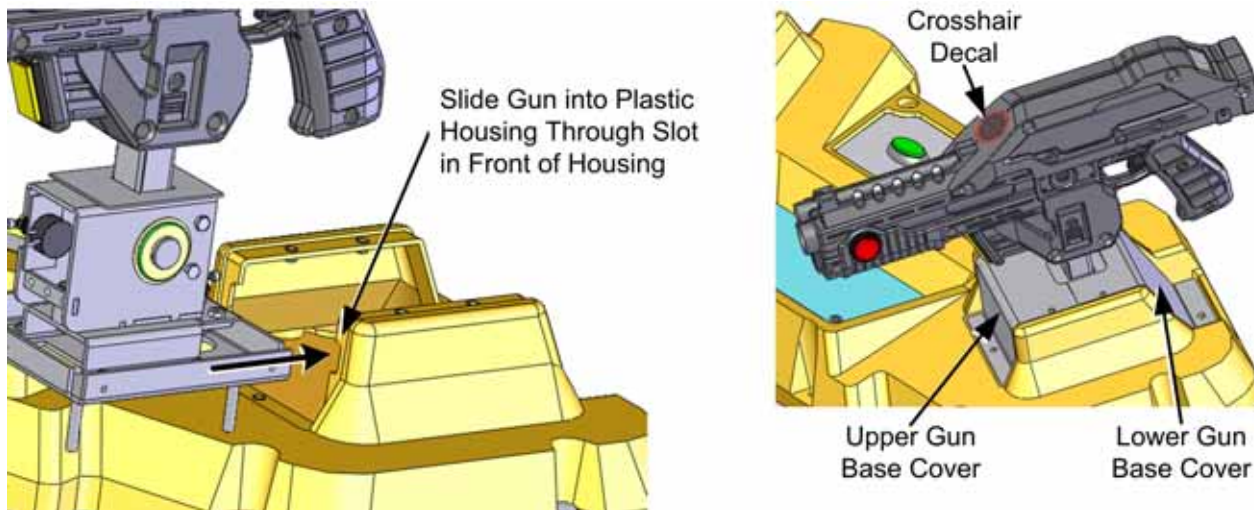

Figure 5. Install Guns & Gun Base Covers
6. Secure the plastic Control Panel Housing to the T-Nuts installed in the Control Panel Base with the eight (8) ¼-20 x 3/4" black pan head screws with black flat washer and lock washer. (Install with lock washer first and flat washer against the plastic.)
7. Slide each gun into the Control Panel Housing as shown in Figure 5 and place it on the Control Panel Base with the threaded mounting studs extending through the holes in the wood. Secure each gun below the Wood Control Panel Base with four (4) ¼-20 Kev nuts with flat washers.
10. Apply the Decals to the Gun Base Covers as shown in Figure 5.
11. Secure each Upper Gun Base Cover to the Control Panel Housing using two (2) #8-32 x 3/4" black tamper-proof pan head screws with #8 flat washers, and one (1) 1/4-20 x 3/4" black tamper-proof pan head screw with 1/4" lock washer and flat washer.
12. Secure each Lower Gun Base Cover to the Control Panel Housing using three (3) #8-32 x 3/4" black tamper-proof pan head screws with #8 flat washers.
13. Apply gun Crosshair Decals as shown in Figure 5: **Red Decal - Player 1, Blue Decal - Player 2.**